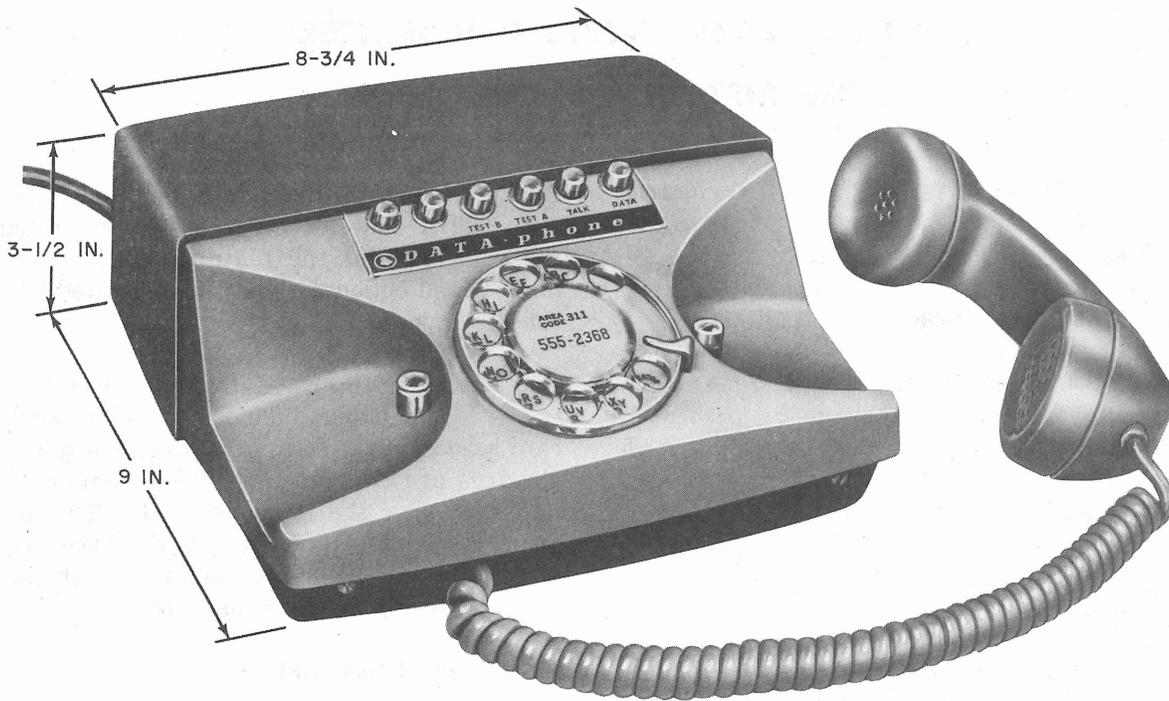

Fig. 1—Data Set 401M-Type
**1.04** The DS 401M-type transmitter (Fig. 1) is designed for use in DATA-PHONE® service. It is used for low-speed, parallel (2-out-of-10 or 3-out-of-14 frequencies) transmission of alphanumeric data over the switched network at speeds of up to 20 characters per second. It also provides for either of two types of answer-back: voice answer-back through the telephone handset receiver, or audible answer-back through a customer-provided loudspeaker.